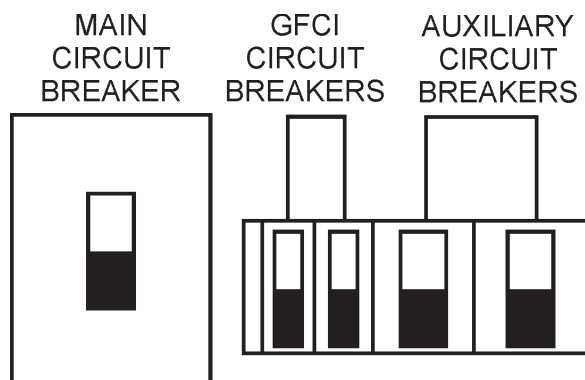

Figure 54. Main, AUX. and GFCI Circuit Breakers (OFF)
1. Switch the **MAIN**, **AUX** and **GFCI** circuit breakers (Figure 54) to the “**OFF**” position (no load).
1. To shut-down the engine in the event of an emergency, switch the **MAIN**, **GFCI** and **LOAD** (Figure 54) circuit breakers to “**OFF**” position.